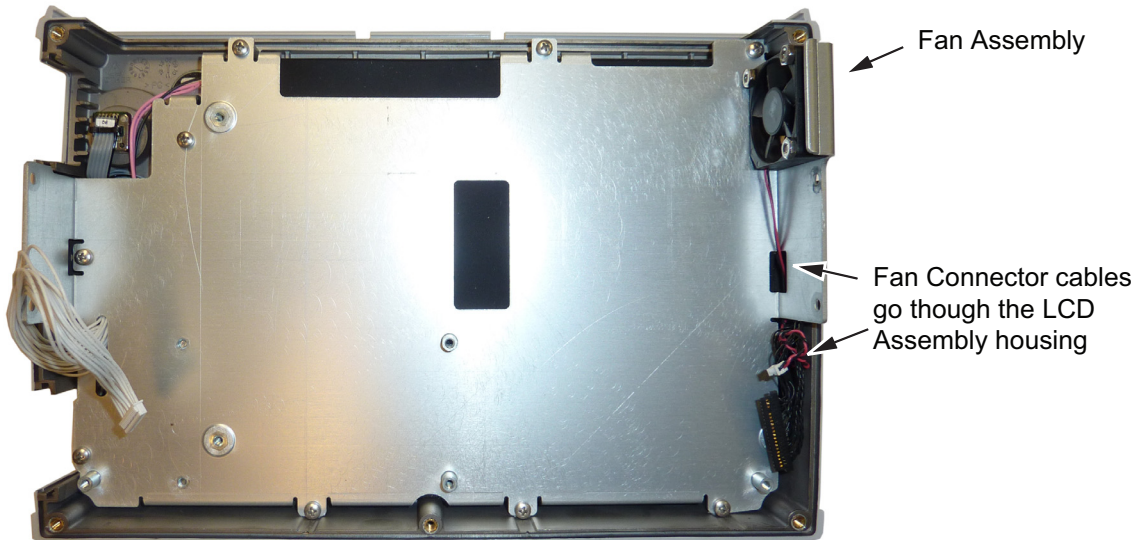

Figure 6-10. Front Panel Showing Fan Assembly
3. The fan is attached to the LCD housing by either three screws or three rubber mounts. If screws are used, remove the screws to remove the fan and re-use the existing screws to secure the replacement fan. If rubber mounts are used, cut the rubber mounts in order to remove the fan, and new rubber mounts will be included with the replacement fan assembly. Refer to (Figure 6-10).